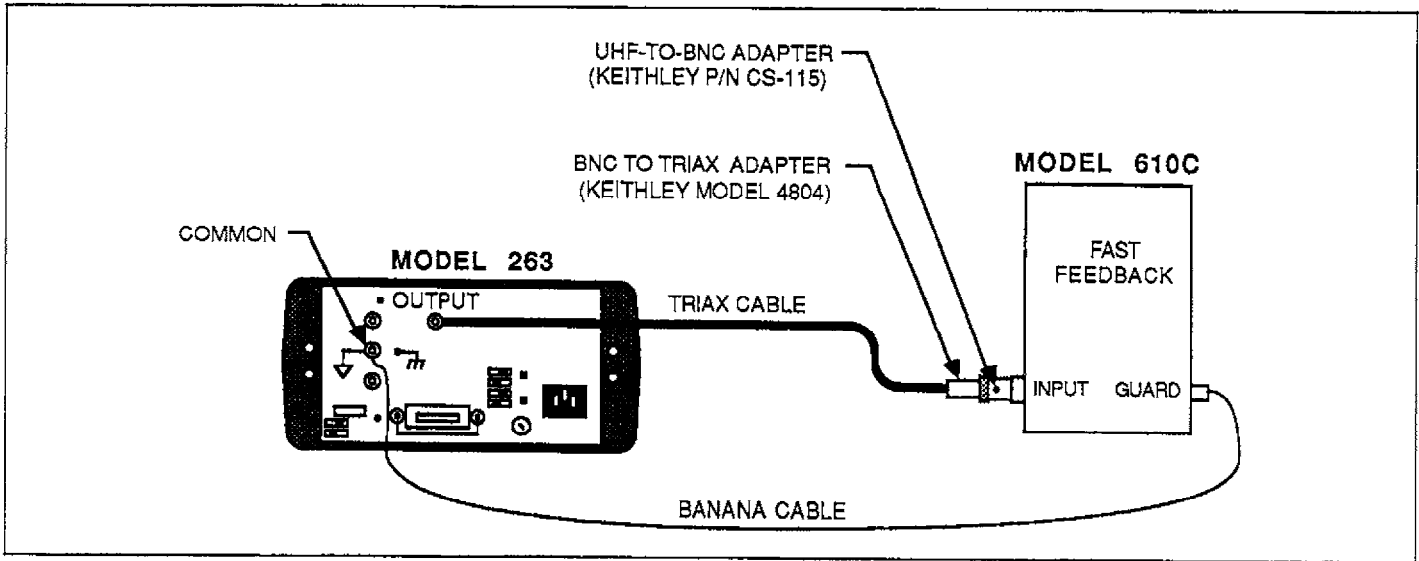

Figure 5-11. Model 610C Ohms Accuracy Checks ($\geq 1G\Omega$)
3. Ohms (step d) — The procedures in this paragraph require precision resistors to check accuracy. Instead, use the Model 263 to source the appropriate resistance. When sourcing 100M Ω or more to the Model 610C, use guarding. For guarded ohms, enable guard on the Model 263, place the feedback switch of the Model 610C in the FAST position, and connect the instruments as shown in Figure 5-11.